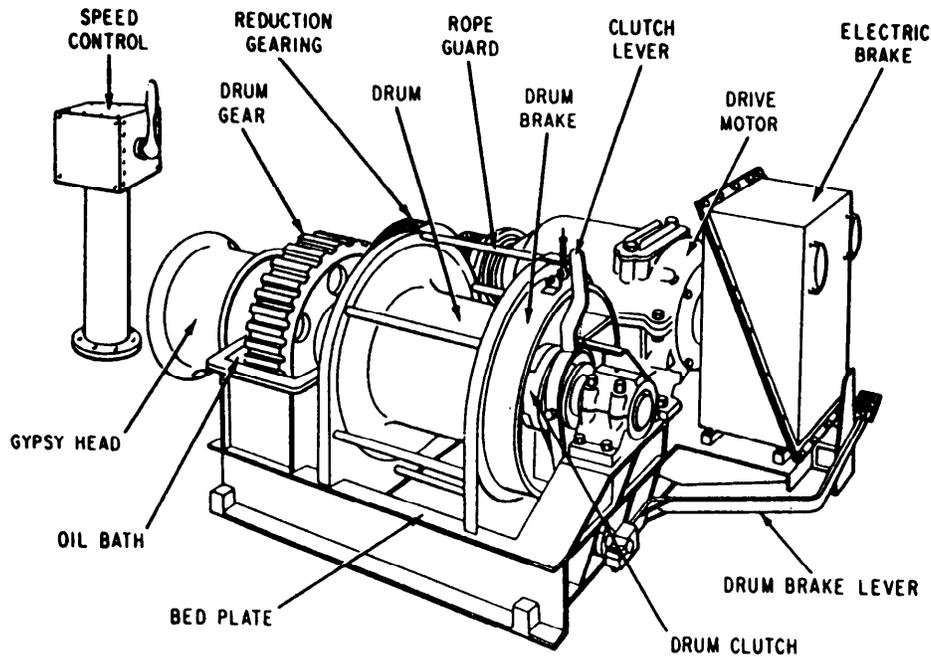

Figure 14-4.—Electric winch.
**ELECTRIC WINCHES.**—An electrically driven winch is shown in figure 14-4. This winch is a single-drum, single-gypsy type. The electric motor drives the unit through a set of reduction gears. A clutch engages or disengages the drum from the drum shaft. Additional features include an electric brake and a speed control switch.